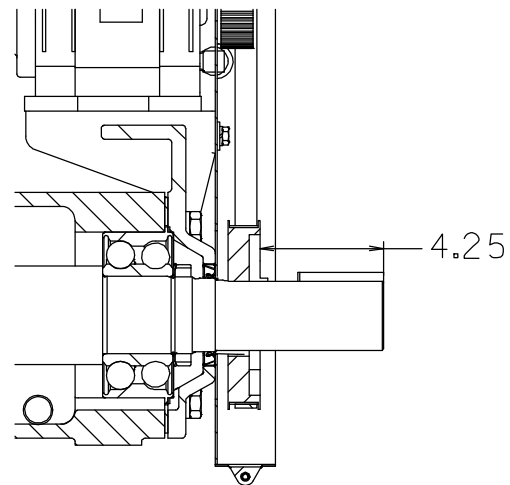

Figure 6. Drive Sprocket Positioning
Install the key (34) in the shaft keyway, making sure to leave room in the keyway for the drive key (25, Figure 2). Install the bushing (35) and sprocket (36) on the shaft to the dimension shown in Figure 6.